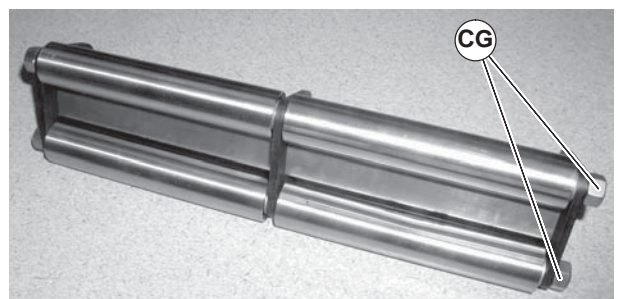

Figure 69
5. Remove hex nuts (Figure 69, item CG).